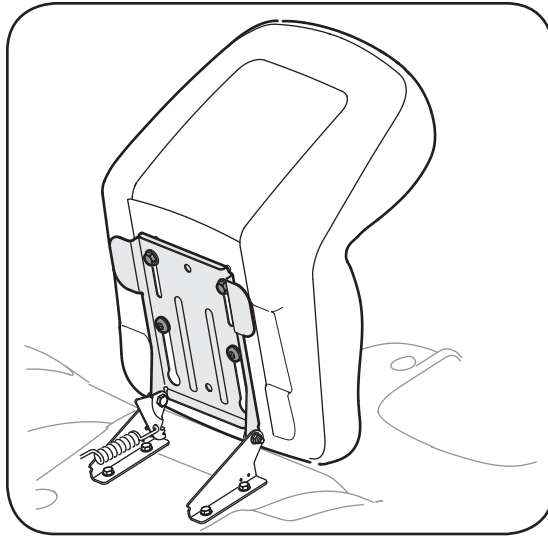
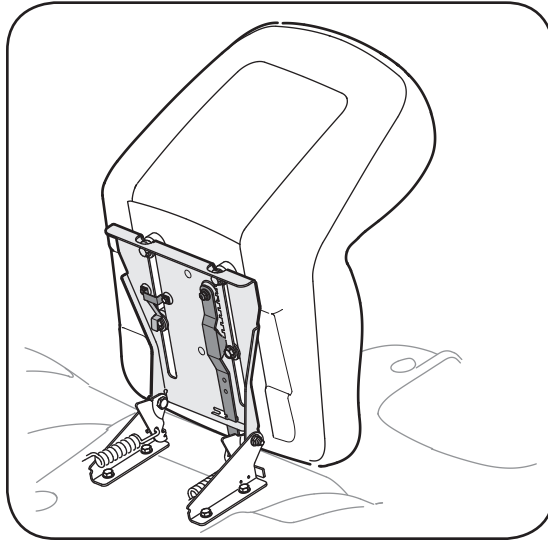
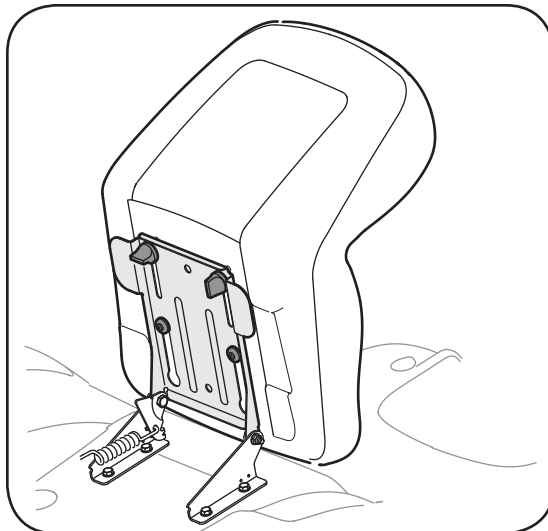

Figure 3-5
Figure 3-6
Figure 3-7
If the seat for your tractor was not attached at the factory, refer to Fig. 3-5, Fig. 3-6, and Fig. 3-7 to identify your tractor's seat style and follow the applicable instructions below to attach it.
1. Position the shoulder screws (found on the base of the seat) inside the slot openings in the seat pivot bracket. See Fig. 3-5.
3. Select desired position for the seat, and secure with the two hex screws removed earlier. See Fig. 3-5.
**NOTE:** If your seat was shipped mounted backwards on the seat pivot bracket, pull out the tab found on the seat stop and hold it open while sliding the seat off the seat pivot bracket. See Fig. 3-6.
2. Slide seat in until front seat spacer engages the seat stop. See Fig. 3-6.
1. Position the shoulder screws (found on the base of the seat) inside the slot openings in the seat pivot bracket. See Fig. 3-7.
3. Select desired position for the seat, and secure with the two knobs removed earlier. See Fig. 3-7.